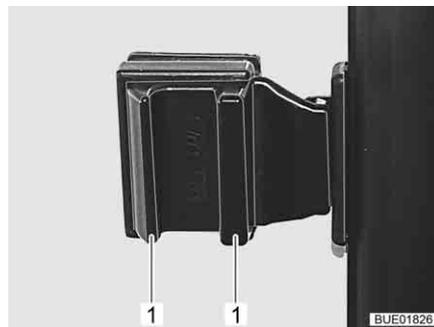

Fig. 107 Sliding window with pressure lock
- Press the handles (Fig. 107,1) together and hold them in place.